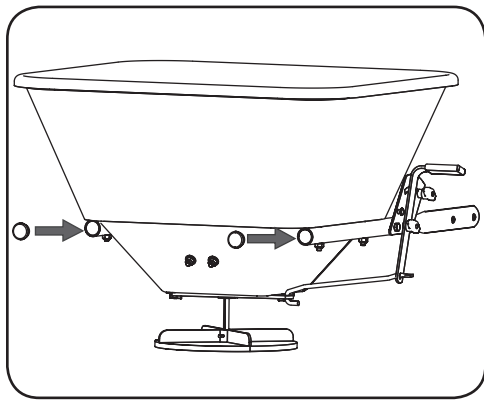

Figure 1-11
- Insert plugs into rear ends of the single frame tubes. See Figure 1-11.